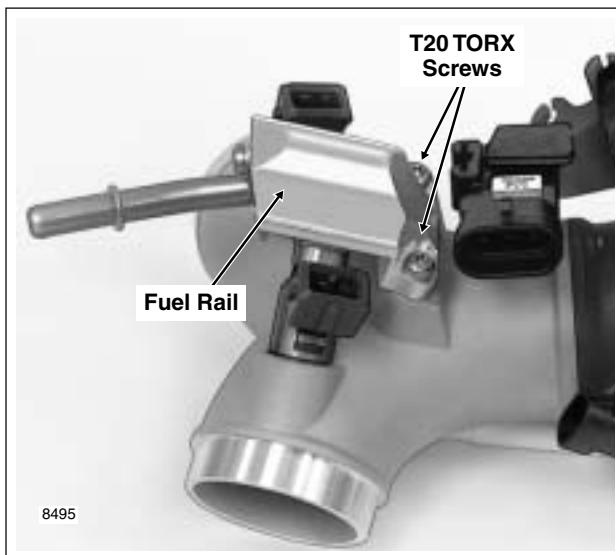

Figure 9-29. Remove Fuel Rail
5. Using a T20 TORX drive head, remove two screws to release fuel rail from induction module. See Figure 9-29.
4. Using a T20 TORX drive head, install two screws to fasten fuel rail to induction module. Alternately tighten screws to 27-33 **in-lbs** (3.0-3.7 Nm). See Figure 9-29.
4. Using a T20 TORX drive head, remove two screws to release fuel rail from induction module. See Figure 9-29.